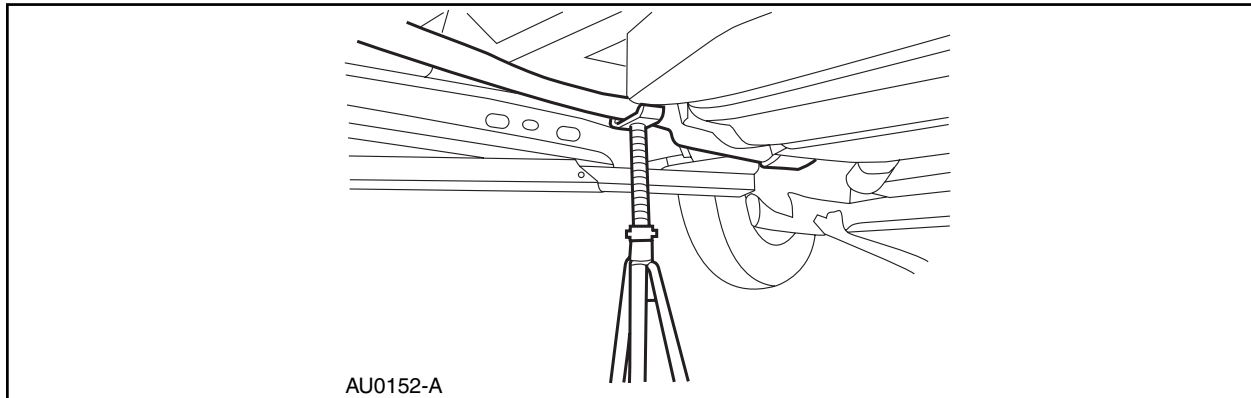

FIGURE 4
7. Support the exhaust system with a suitable jack stand. See Figure 4.